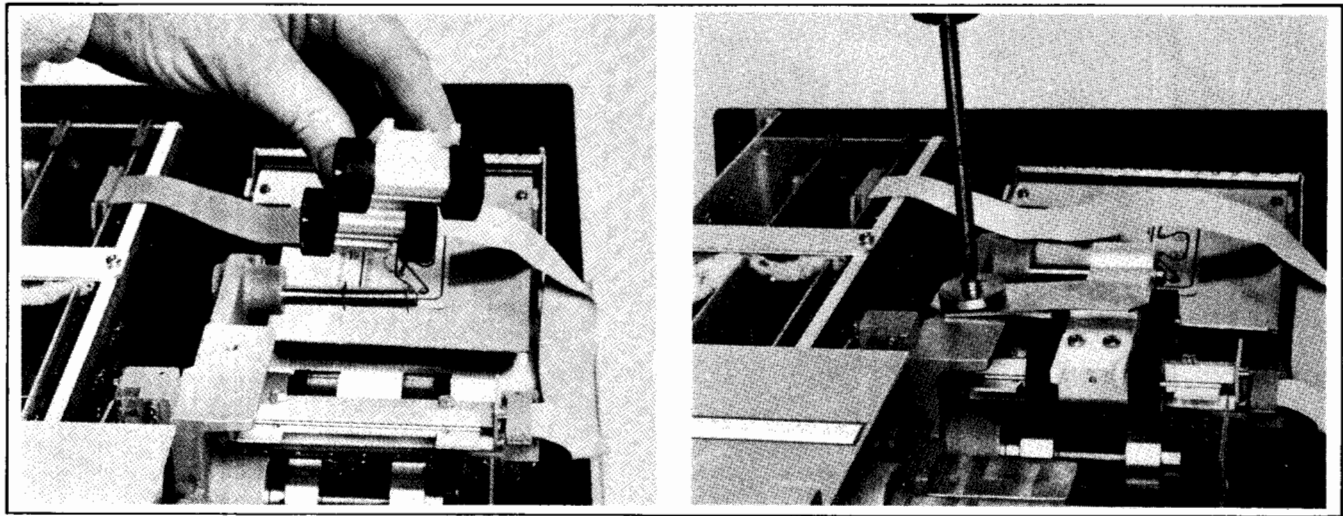

Figure 5-4. Upper Truck Assembly Removal/Replacement
- b. Loosen screw holding upper truck spring. See Figure 5-4.
- d. Remove upper truck assembly. See Figure 5-4.